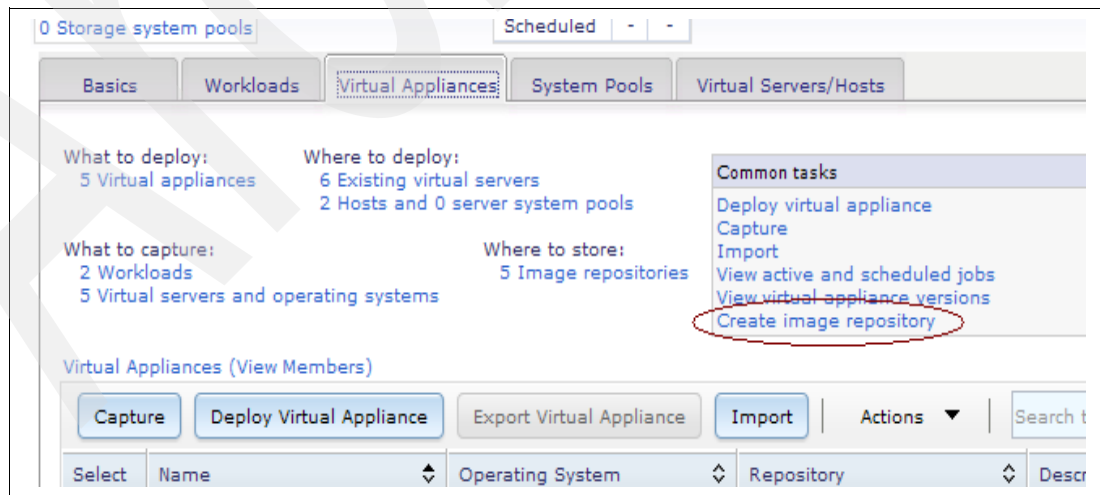

Figure 5-13 Create image repository: Virtual I/O server image repository
5. Create an image repository. From the VMControl summary page, go to the **Virtual Appliances** tab and click **Create image repository**, as shown in Figure 5-13.
2. Under Common tasks, select the **Import** option (as seen in Figure 5-13 on page 175) to import the virtual appliance package in Open Virtualization Format (ovf) format into the image repository.